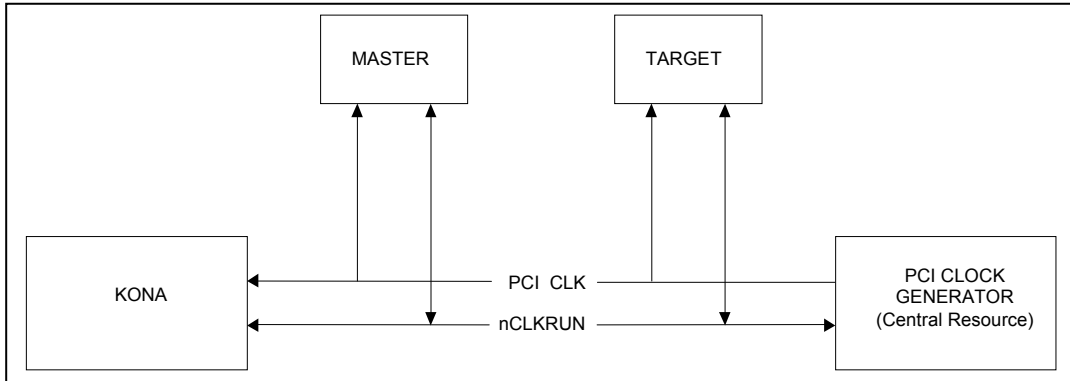
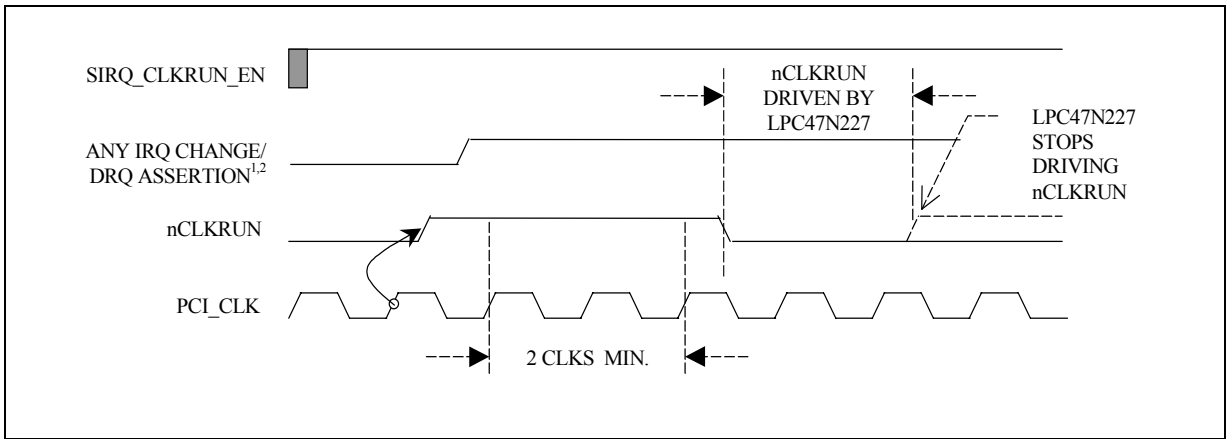

FIGURE 3 – nCLKRUN SYSTEM IMPLEMENTATION EXAMPLE
FIGURE 4 – CLOCK START ILLUSTRATION
The LPC47N227 supports the PCI nCLKRUN signal. nCLKRUN is used to indicate the PCI clock status as well as to request that a stopped clock be started. The LPC47N227 nCLKRUN signal is on TQFP/STQFP pin number 28. See FIGURE 3 for an example of a typical system implementation using nCLKRUN.
If nCLKRUN is sampled “high”, the PCI clock is stopped or stopping. If nCLKRUN is sampled “low”, the PCI clock is starting or started (running). If a device in the LPC47N227 asserts or de-asserts an interrupt or asserts a DMA request, and nCLKRUN is sampled “high”, the LPC47N227 requests the restoration of the clock by asserting the nCLKRUN signal asynchronously (Table 47). The LPC47N227 holds nCLKRUN low until it detects two rising edges of the clock. After the second clock edge, the LPC47N227 disables the open drain driver (FIGURE 4).
The LPC47N227 will not assert nCLKRUN if it is already driven low by the central resource; i.e., the PCI CLOCK GENERATOR in FIGURE 3. The LPC47N227 will not assert nCLKRUN unless the line has been deasserted for two successive clocks; i.e., before the clock was stopped (FIGURE 4).
- Note 2: The LPC47N227 continually monitors the state of nCLKRUN to maintain the PCI Clock until an active “ANY IRQ CHANGE/DRQ ASSERTION” condition has been transferred to the host in a SER_IRQ/DMA cycle. For example, if “ANY IRQ CHANGE/DRQ ASSERTION” is asserted before nCLKRUN is de-asserted (not shown in FIGURE 4), the LPC47N227 must assert nCLKRUN as needed until the SER_IRQ/DMA cycle has completed.